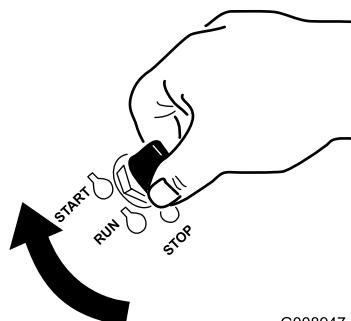

Figure 18
1. Turn the ignition key to the Start position (Figure 18). When the engines starts, release the key.
6. Turn the ignition key to the Start position (Figure 18). When the engines starts, release the key.